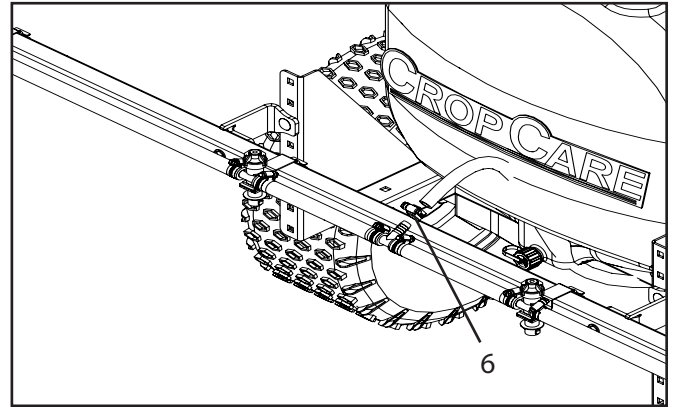

Figure 7: Tee/Supply hose
9. Connect the hose coming from the controls to the tee on the center frame as shown in figure 7. Slide a loose hose clamp (6) (Figure 1 & 7, pg 5 & 7) onto the hose coming from the controls. Push the hose onto the tee on the center frame. Tighten the hose clamp around the hose and tee.